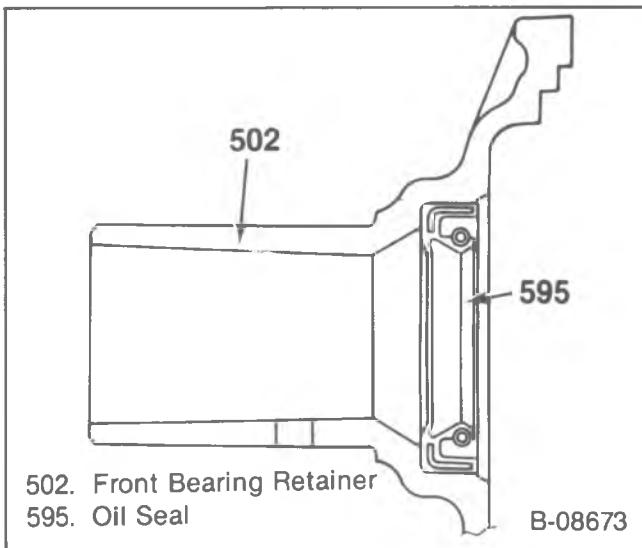

Figure 102—Front Bearing Retainer Oil Seal Installed
- New seal (595) using J-26540. Coat the inside of the seal with transmission oil, (figure 102).